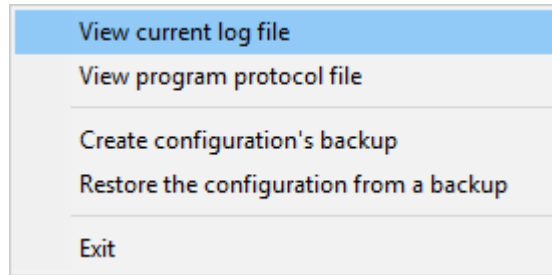

Fig. 2. "File" menu item
- The main menu above the toolbar allows you to edit the program settings ("Options - Program settings..."), manage configurations, open the current logfile from the "File" menu (fig. 2).